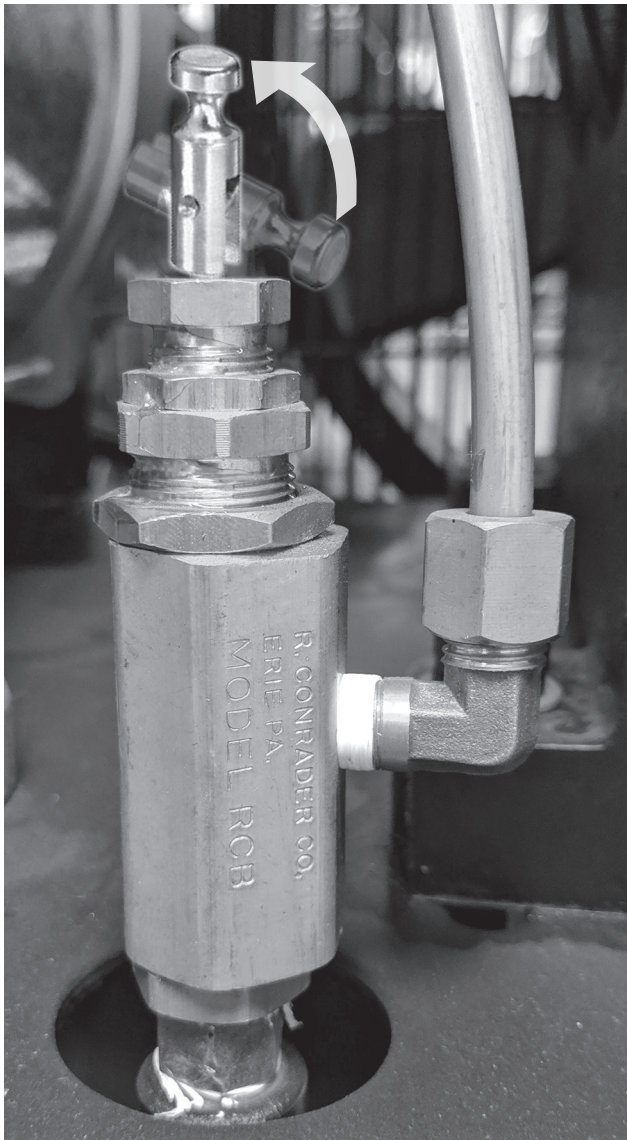

fig.11 Pressure relief knob- pull up to start
9. Pull the compressor pressure relief knob to up position (JA, fig.6 and fig.11) to release head pressure and for easy starting. Failure to open